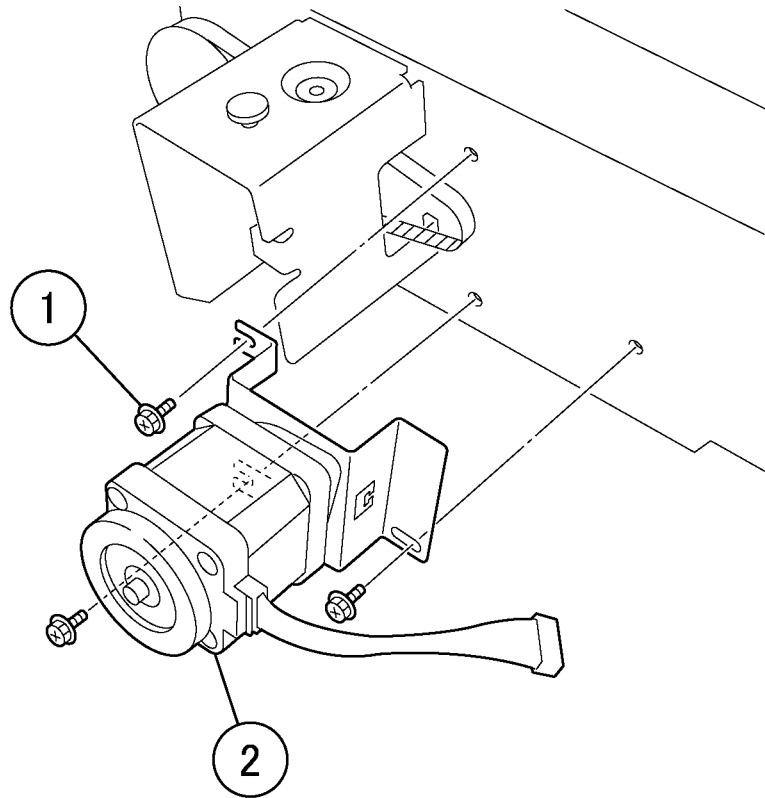

Figure 4 Removing the Carriage Motor Assembly (j0st41123)
4. Remove the Carriage Motor Assembly. (Figure 4)